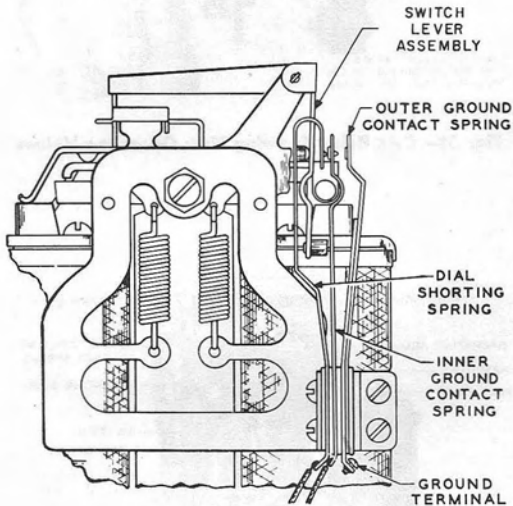

Fig. 55—D-96590 Dial Shorting Relay, 3-Spring
- 6.108** Refer to Fig. 55 and 56 for spring arrangements.
6.111 With coin trigger and operating arm in normal unoperated positions, dial shorting contact springs (Fig. 55 and 56) should have perceptible follow. With coin trigger tripped, they should be open; judge visually.